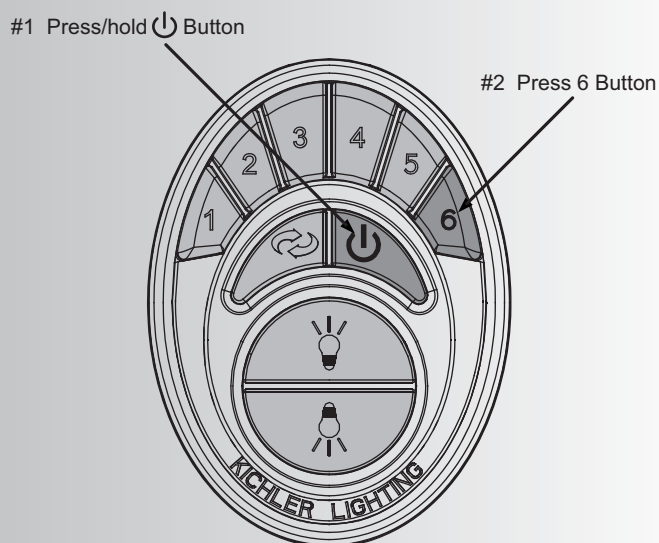

Fig. 21
6. After the ceiling fan light blinks twice, press and release the High Speed (6) Button. Let the ceiling fan run for a minimum of 90 seconds (1 ½ minutes). The control system will do another self check, initialize all operational functions and complete the programming process (Figure 21).